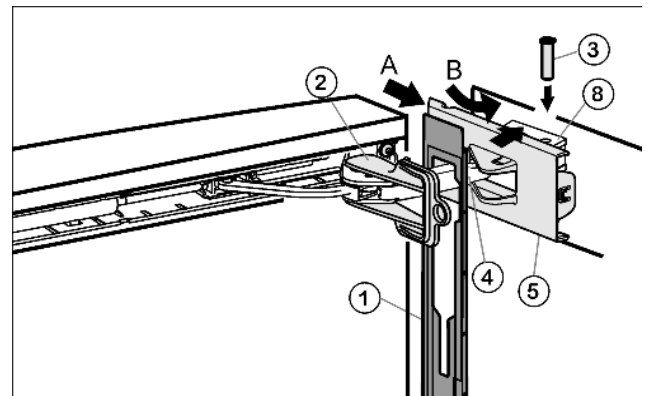

Fig. 37
- ▶ Hook panel Fig. 37 (1) into the damper bracket Fig. 37 (4) such that the detent hooks are pointing inwards and the front side is facing the appliance.
- ▶ Push on cover Fig. 37 (5) from the outside (A) and pivot over the bearing part Fig. 37 (8) (B).
- ▶ Place cover Fig. 37 (5) on top and allow to snap into place until the first notch.
- ▶ Pull damper bracket Fig. 37 (4) towards bearing part and insert bolt Fig. 37 (3) from above such that the square is resting in the recess.
- ▶ Now snap cover Fig. 37 (5) completely into place on the bearing part Fig. 37 (8).
- ▶ Remove locking device *Fig. 37 (2)* by twisting it.
- ▶ Snap panel *Fig. 37 (1)* into place on the door.